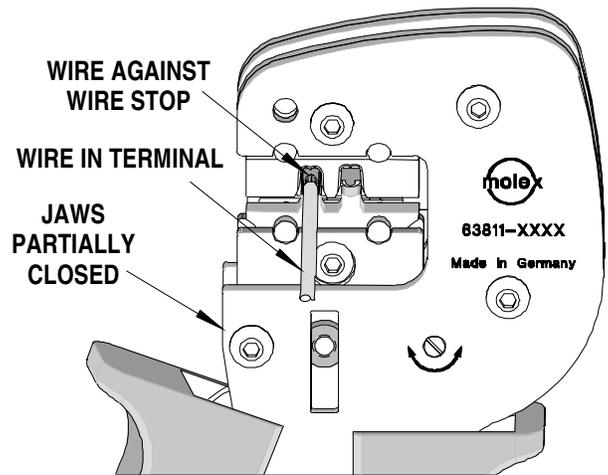

Figure 2
2. Insert the proper pre-stripped wire over the terminal. Gently touch the wire stop with the end of the wire. See Figure 2 and 3.